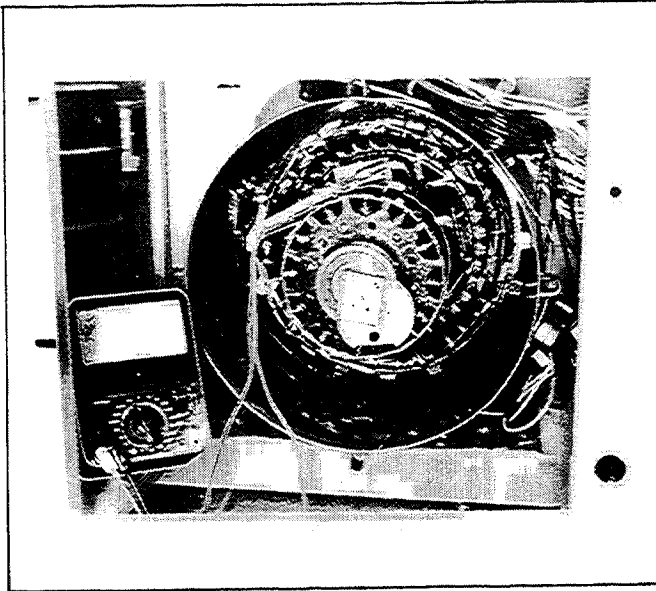

Figure 4-11. Exciter Armature Continuity Check
2. With an ohmmeter, check for continuity across A1 and A2 leads (see Figure 4-11).
4. Visually check exciter armature for shorted winding(s), with an ohmmeter check for low resistance readings (under 0.1-0.2 ohms) Figure 4-11. Low resistance readings indicates a faulty exciter armature - replace rotor assembly.